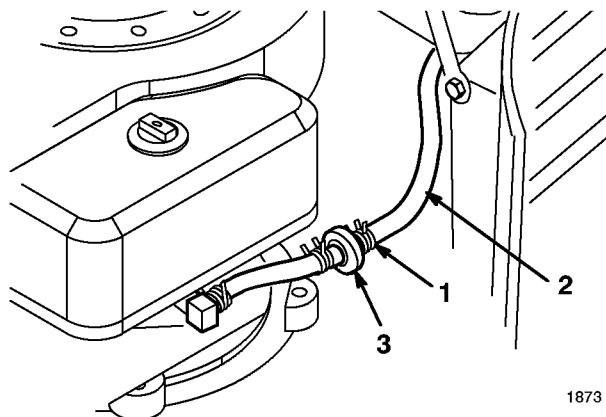

Figure 25
3. Squeeze the ends of the hose clamp together and slide it up the fuel line toward the fuel tank (Fig. 25).
4. Pull the fuel line off the filter (Fig. 25) and allow gasoline to drain into a gas can or drain pan.
The best time to replace the fuel filter (Fig. 25) is when the fuel tank is empty. Never install a dirty filter if it is removed from the fuel line.
3. Squeeze the ends of the hose clamps together and slide them away from the filter (Fig. 25).